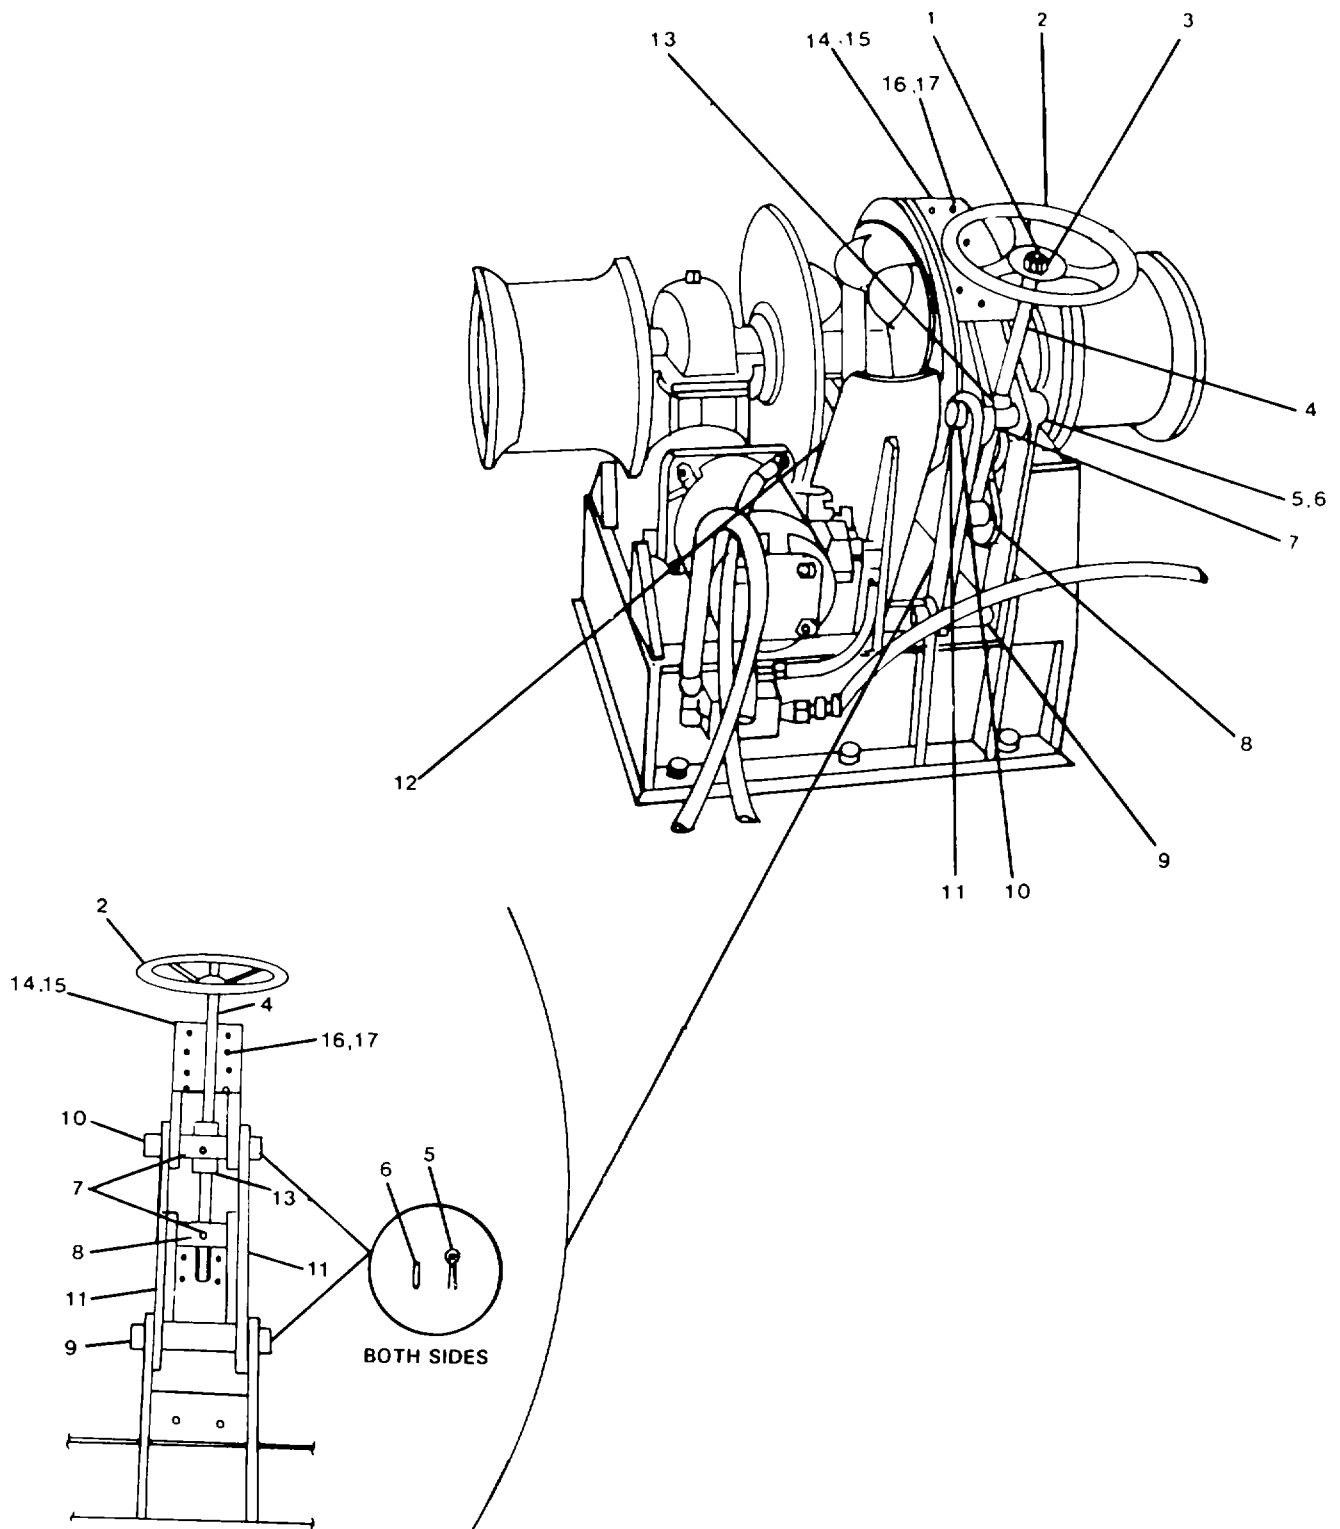

FIGURE 4-6. Bow Anchor Windlass Brake and Drum Components.
- (1) Remove self-locking nut (1, FIGURE 4-6) securing manual brake handlewheel (2).
- (2) Remove wheel (2).
- (3) Remove machine key (3).
- (4) Loosen shaft collar (13) setscrew.
- (5) Remove brake rod (4) by unscrewing from anchor brake pin (8), and remove shaft collar (13).
- (6) Remove top and bottom cathead pins (5), lockwashers (6) at both sides and lubrication fittings (7).
- (7) Remove top brake pin (10).
- (8) Remove bottom brake pin (9).
- (9) Remove anchor brake arms (11).
- (10) Remove anchor brake pin (8).
- (11) Remove brake band (14) and lining (15).
- (1) Remove chain stripper (12, FIGURE 4-6).
- (2) Install shaft spacer (4).
- (3) Install lubrication fitting and drum bushing (3).
- (4) Install lifting sling to wildcat (2) and slide wildcat (2) on to shaft.
- (5) Install spacers (10 and 11) and install bolt (12) in spacer (11) and secure.
- (6) Install chain stripper (12, FIGURE 4-6).
(1) Replace brass screw (16, FIGURE 4-6) and self-locking nut (17) to secure lining (15) to brake band (14).
(2) Install brake band lining (15) and brake band (14).
(3) Replace anchor brake pin (8).
(4) Install top brake pin (10) and bottom brake pin (9).
(5) Install anchor brake arms (11).
(6) Install cotter pins (5), washers (6), and lubrication fittings (7).
(7) Install shaft collar (13) on brake rod (4).
(8) Install brake rod (4) by screwing into anchor brake pin (8). Position shaft collar (13) on brake rod (4) and screw with setscrew.
(9) Install machine key (13).
(10) Install manual control handle (wheel) (2).
(11) Secure wheel (2) with self-locking nut (1).